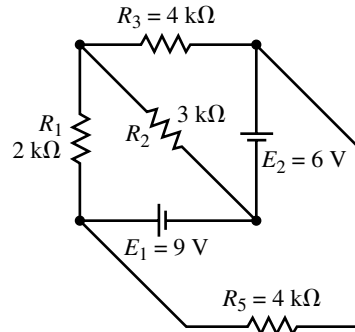

FIGURE 8-87
- 32. Repeat Problem 31 for the network in Figure 8-87.